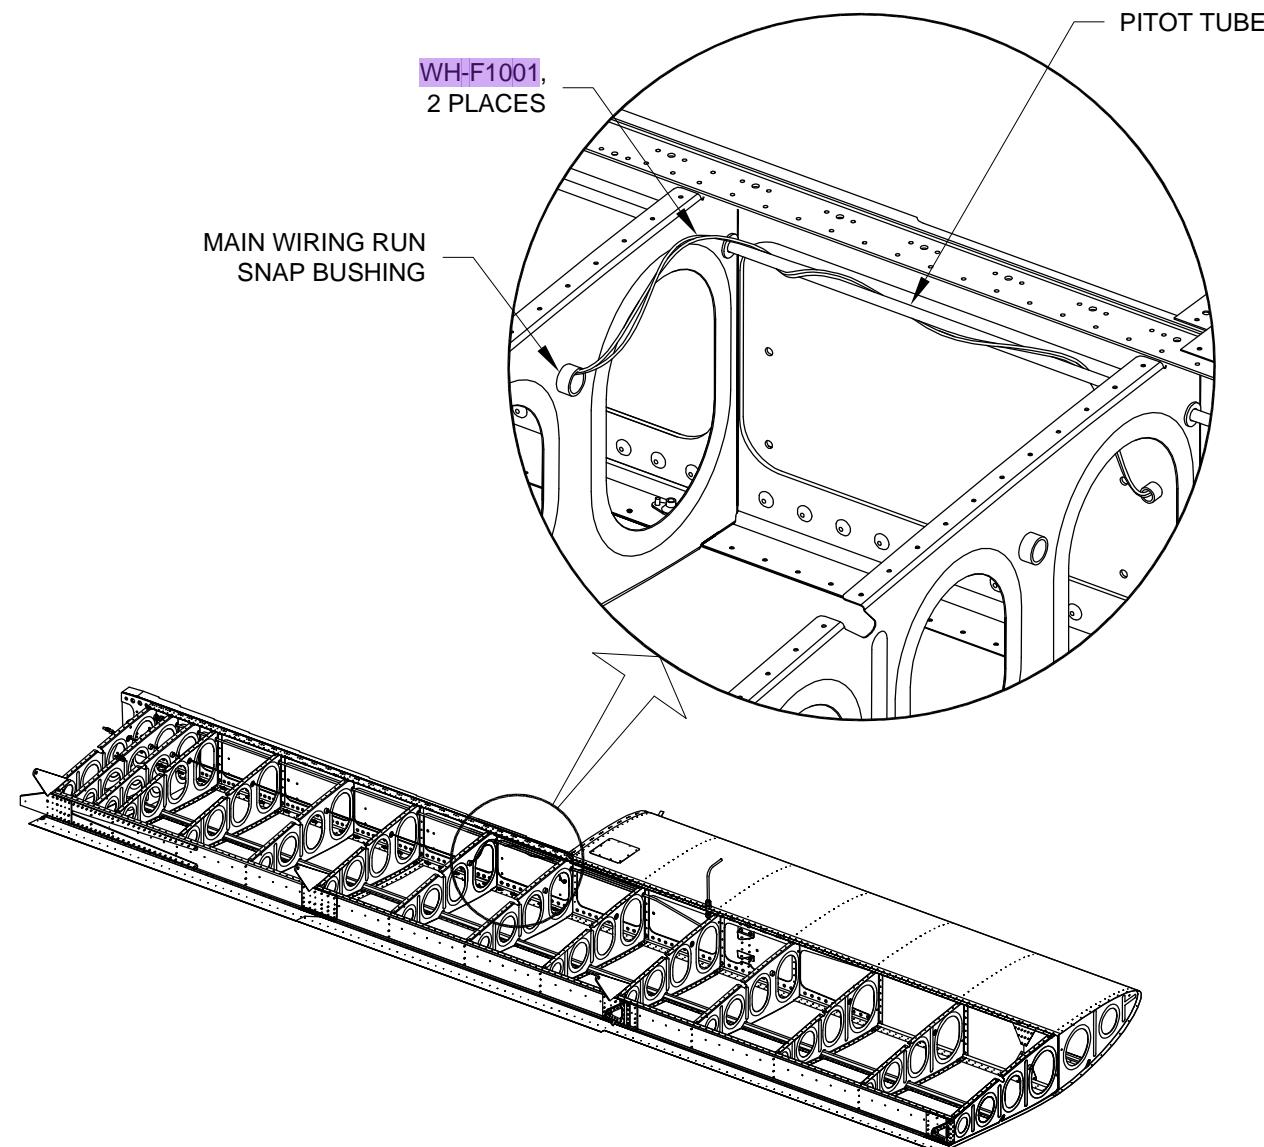

FIGURE 1: ROUTING WIRES INTO THE MAIN WING WIRE RUN
Step 1: To prevent the **WH-F1001** Wires from interfering or rubbing on the **W-1017A** Stick To Bellcrank Pushrod wrap the wire around the pitot tube along the entire length of the rib bay as shown in Figure 1. Cross over from the pitot tube to the main wiring run snap bushing and to the root end of the wing assembly.